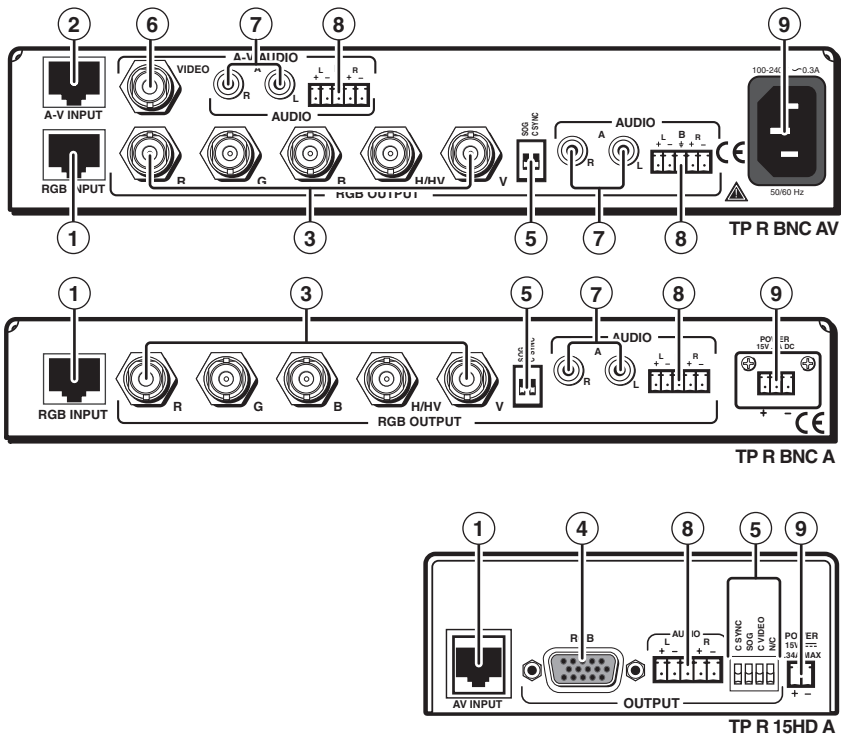

Figure 2-7 — Installation features, TP receivers
- 1** **RGB video transmission connector** — Attach one end of a TP cable to this RJ-45 female connector (figure 2-7). Attach the other end to an Extron TP 15HD or BNC transmitter. See *Termination of TP cable* on page 2-15 for pin assignments.